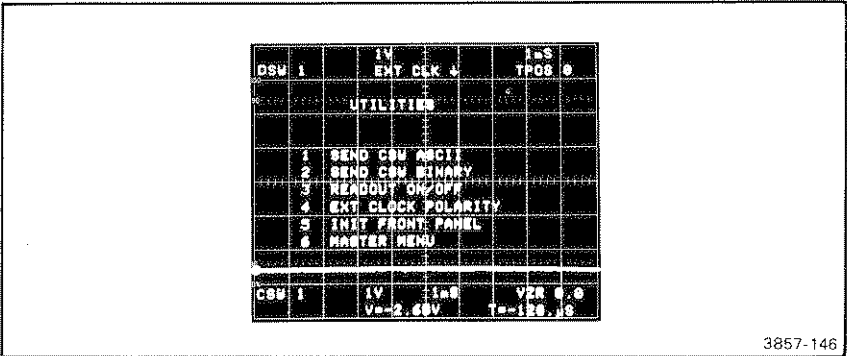

Figure 2-41. External Clock prompt.
4 EXT CLOCK POLARITY. This UTILITIES menu selection displays the current status of the EXTERNAL CLOCK polarity in the prompt field as shown in Figure 2-41. The message "EXT CLK \uparrow " or "EXT CLK \downarrow " is displayed (depending on current polarity status) and the arrow will be blinking. The EXT CLOCK polarity will reverse with each additional press of MEMORY DISPLAY key 4.